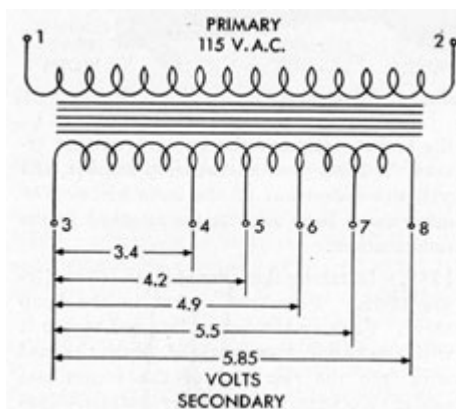

Figure 13-20. Transformer wiring diagram.
**13F15. Testing the transformer.** (See Figure 13-20.) Connect the two primary leads to the 115-volt a.c. line. Connect a voltmeter across the secondary leads as shown in Figure 13-20. Voltage readings should be taken as shown in Figure 13-20.